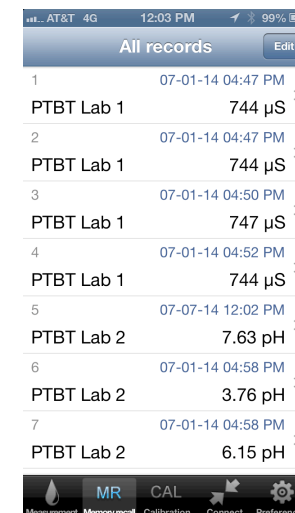

Figure 22
2. The App will switch to the All Records screen (see Figure 22) which shows a synopsis of each record including:
- In Figure 22 the original data in Record 5 has been replaced with data from later measurement.